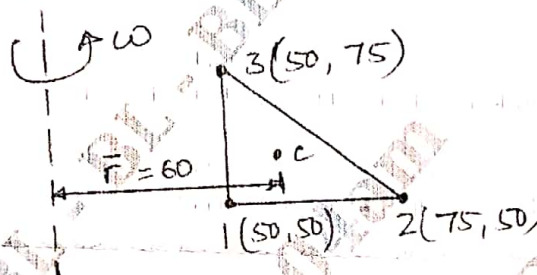

Fig. Q9 (b)
- b. For the element of an axisymmetric body rotating with a constant angular velocity $\omega = 1000 \text{ rpm}$ as shown in Fig. Q9 (b). Determine the body force vector by considering the specific density as 7850 kg/m^3 .